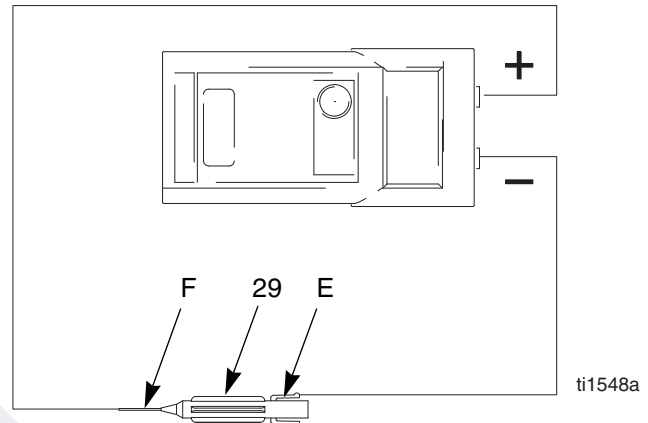

Fig. 9. Electrode
4. Remove the electrode (29), page 27. Measure the resistance between the contact (E) and the electrode wire (F). The resistance should be 20-30 megohms. If out of range, replace the electrode. See FIG. 9.